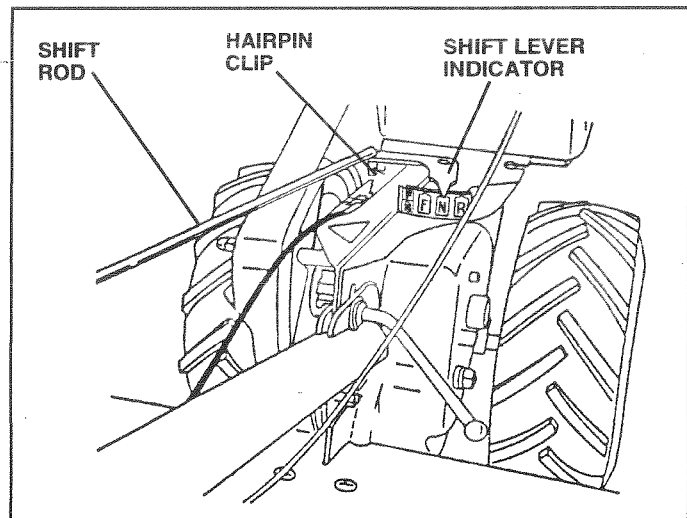

FIG. 7
## CONNECT SHIFT ROD (See Fig. 7)
- Make sure shift lever indicator is in "N" position (See Fig. 7).